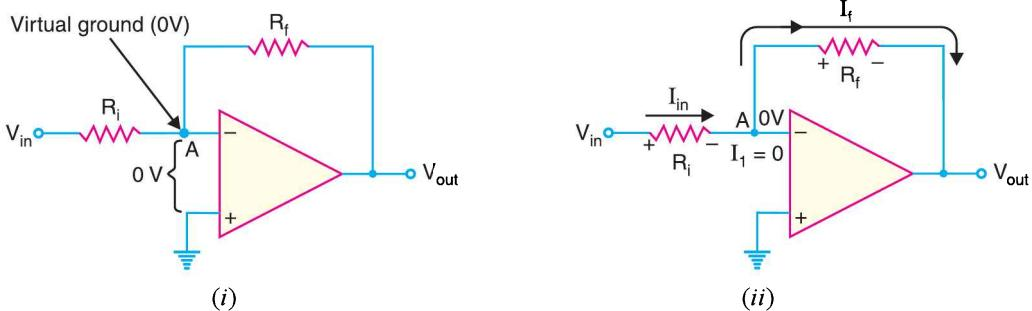

Fig. 25.47
**Voltage gain.** An *OP*-amp has an infinite input impedance. This means that there is zero current at the inverting input. If there is zero current through the input impedance, then there must be *no* voltage drop between the inverting and non-inverting inputs. This means that voltage at the inverting input ( $-$ ) is zero (point *A*) because the other input ( $+$ ) is grounded. The 0V at the inverting input terminal (point *A*) is referred to as **virtual ground**. This condition is illustrated in Fig. 25.47. The point *A* is said to be at virtual ground because it is at 0V but is not physically connected to the ground (*i.e.*  $V_A = 0V$ ).
Referring to Fig. 25.47 (ii), the current  $I_1$  to the inverting input is zero. Therefore, current  $I_{in}$  flowing through  $R_i$  entirely flows through feedback resistor  $R_f$ . In other words,  $I_f = I_{in}$ .
(i) **Input impedance.** While an *OP-amp* has an extremely high input impedance, the inverting amplifier does not. The reason for this can be seen by referring back to Fig. 25.47(i). As this figure shows, the voltage source "sees" an input resistance ( $R_i$ ) that is going to virtual ground. Thus the input impedance for the inverting amplifier is